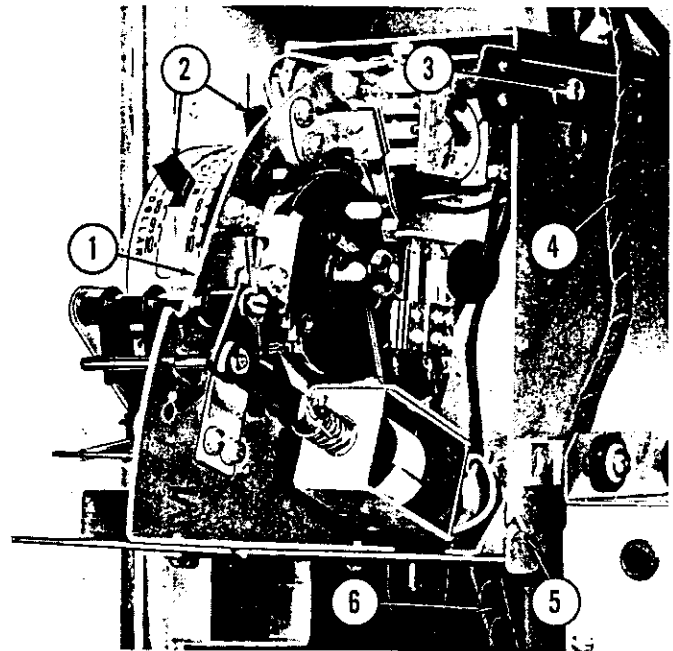

Fig. 6. PLAYRAK OPEN FOR SETTING
c. For access to the playrak for adjustment or resetting, loosen or remove the shipping screw (Item 3, Fig. 6), unlatch the cover and swing it back and downward on its hinge pins (Item 5, Fig. 6). Figure 6 shows the playrak in position for observation or resetting.
CAUTION: To electrically release any of the energized components, turn off the main switch to insure button latch release and clearance of associated D. C. circuits. The playrak may be removed for replacement or repair by removing the plugs of its connecting cables and raising the hinge pins from their bearings. The cover should be closed to the point indicated at Item 1, Fig. 6 for disengagement of the hinge pins.